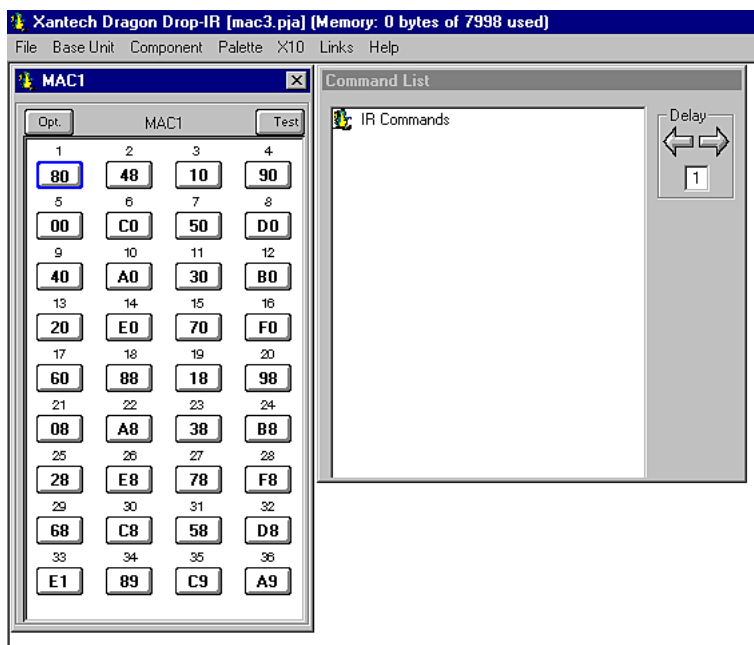

Figure 5 – MAC1 Base Unit
4. A graphic window (MAC1) with 36 buttons and a Command List will appear (**Figure 5**).